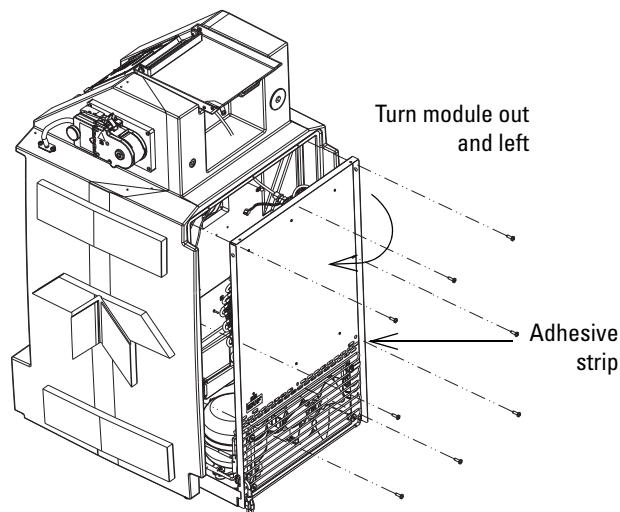

Figure 3: Remove the refrigeration module mounting screws
4. Remove the refrigeration module mounting screws (Figure 3).